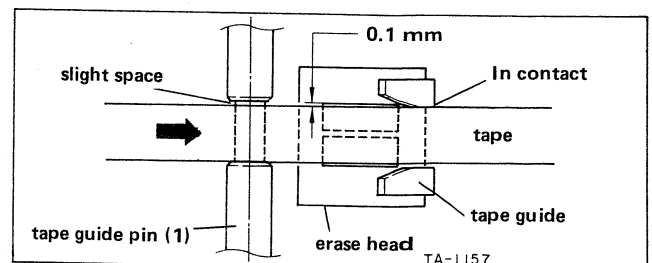

Fig. 6-14 Erase head height fine-adjustment
5. Thread a TEAC YTT-8013 test tape (thickness = 35 μ m). With the tape running at LOW speed (thru step 13), fine-adjust the height of the erase head so that the upper edge of the tape is just in contact with the upper edge of the tape guide on the head. The lower edge of the tape should just touch the lower edge of the tape guide pin (1). See Fig. 6-14.